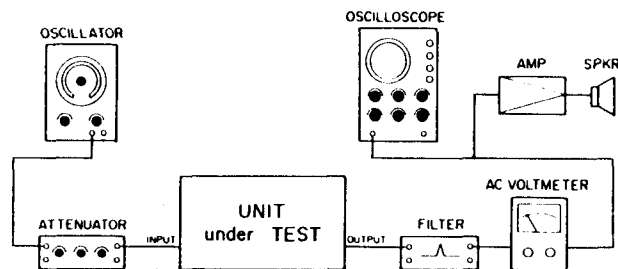

FIG. 32. ERASURE TEST SET-UP
1. Connect test equipment as shown in Fig. 32. The filter to be used is a 1 kHz B.P.F.